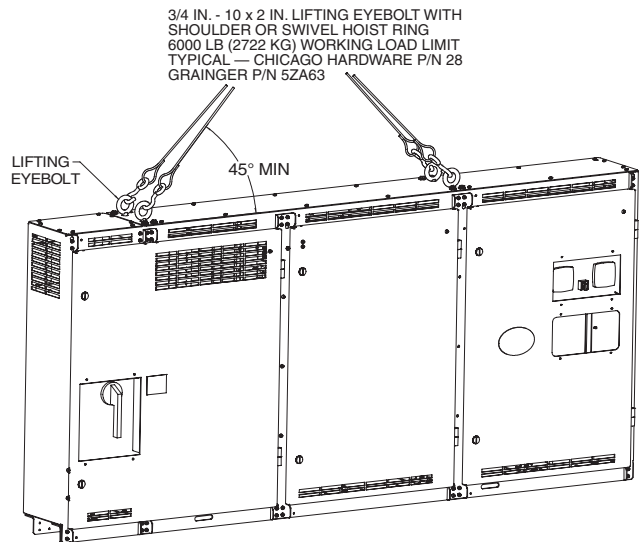

Fig. 29 — Control Center Lifting Points
1. Remove the rubber hole plugs in the top of the control center and fully thread in 4 eyebolts or swivel hoist rings (see Fig. 29). Lifting hardware must have $\frac{3}{4}$ in.-10 x 2 in. long threads and must have a working load limit of at least 6000 lb (2722 kg). Typical eyebolts are Chicago Hardware (size 28) or Grainger (P/N 5ZA63).
4. Rig the control center and remove the bolts that secure it to the VFD mounting brackets on the condenser (see Fig. 29).